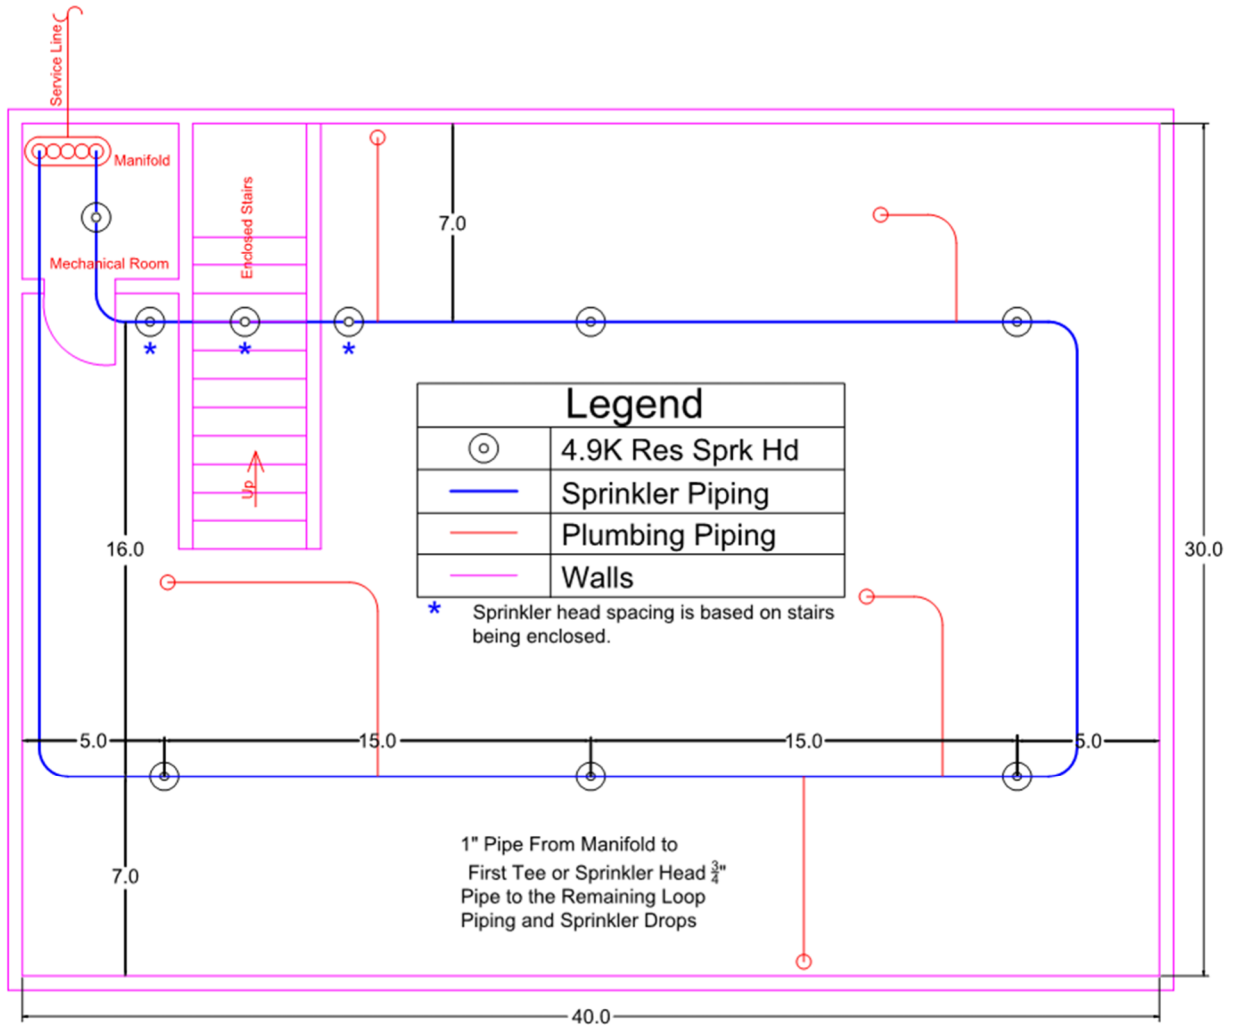
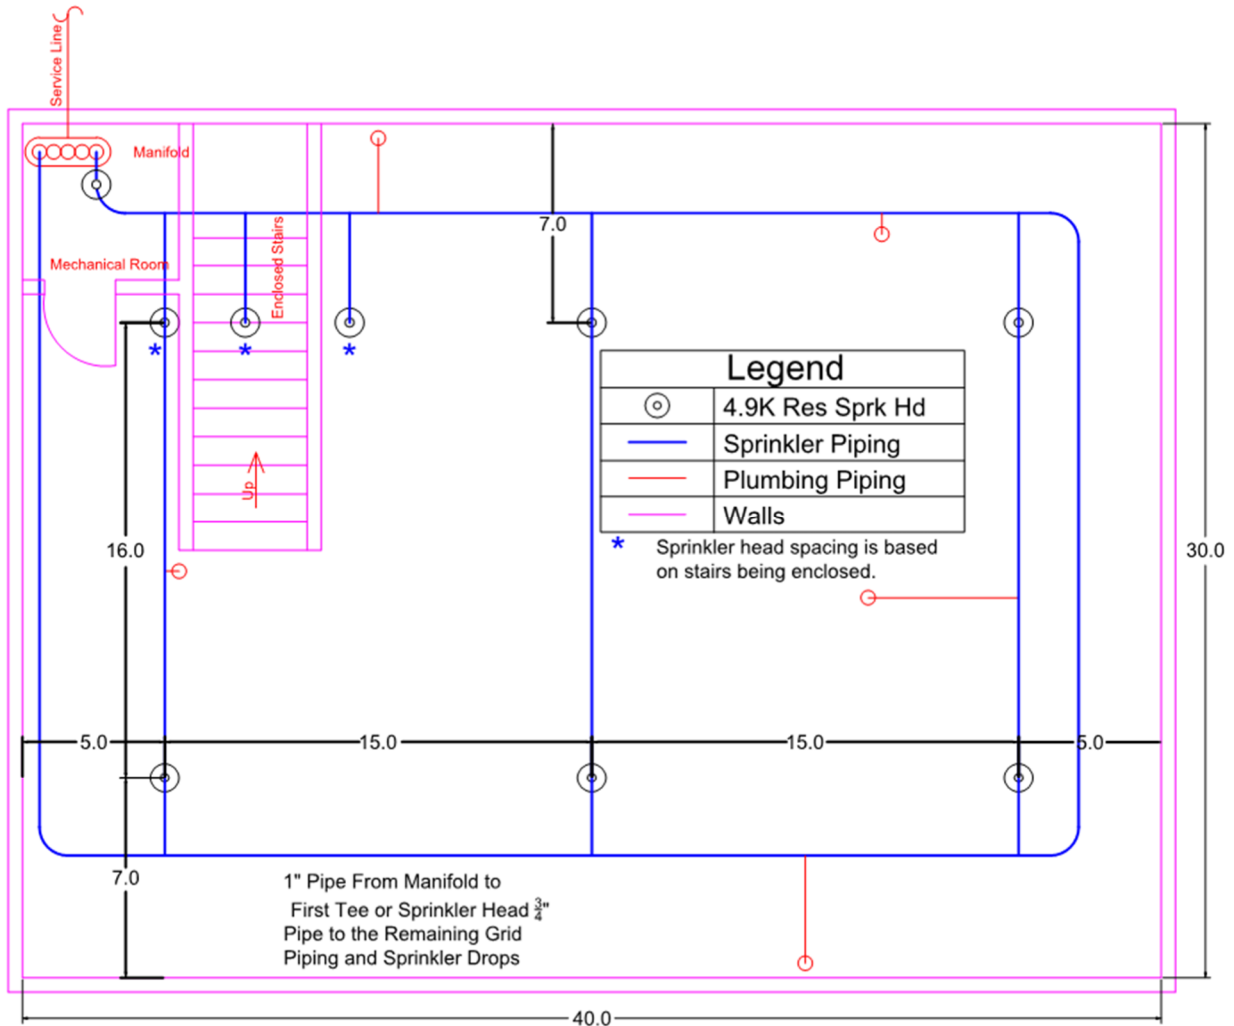

Figure 2 Looped pipe layout
Figure 3 Gridded pipe layout
4. The piping arrangement feeding the sprinklers in the basement shall either be a looped (figure 2) or gridded (figure 3) pipe layout.
Please include cut sheets for piping and sprinklers as part of your AMM submittal package along with a dimensioned sprinkler installation diagram or sketch similar to Figure 2 or 3.